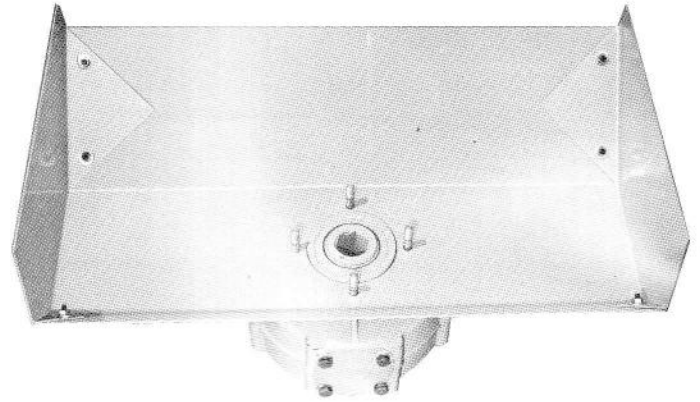

Figure 26
4. Fit the Hood as shown in Figure 26. Insert the Cultivator Drive Shaft into the Gear Housing.